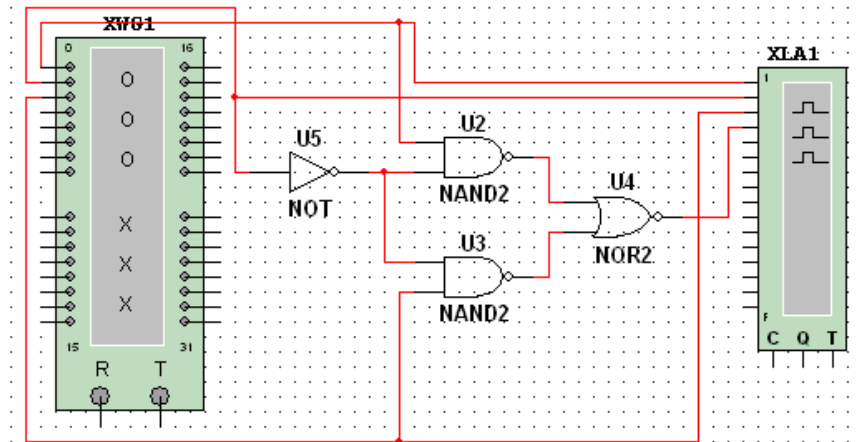
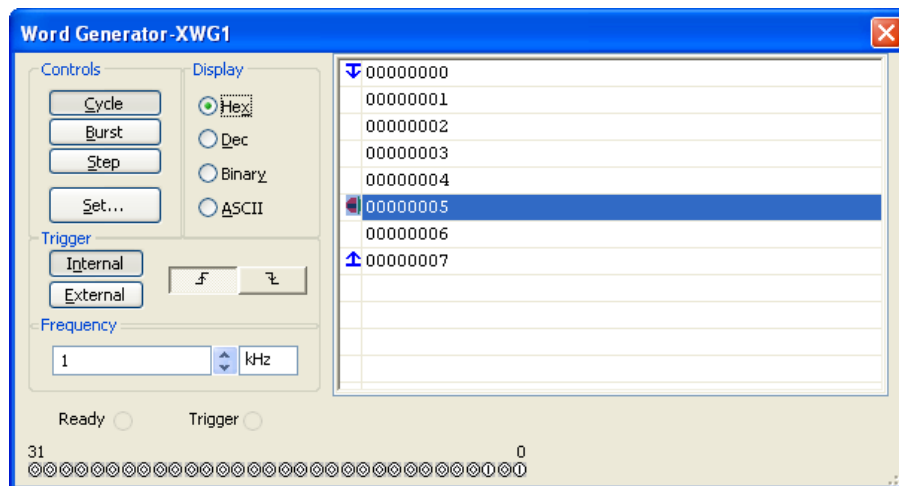
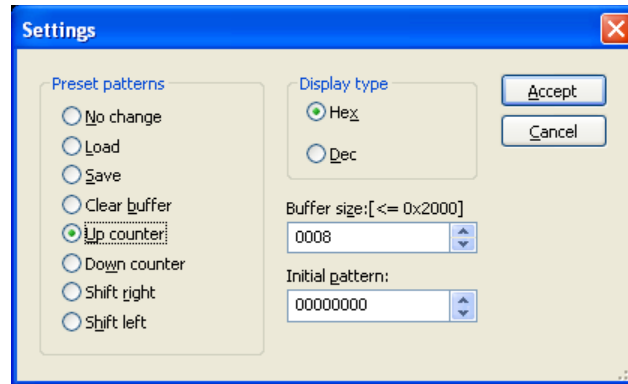
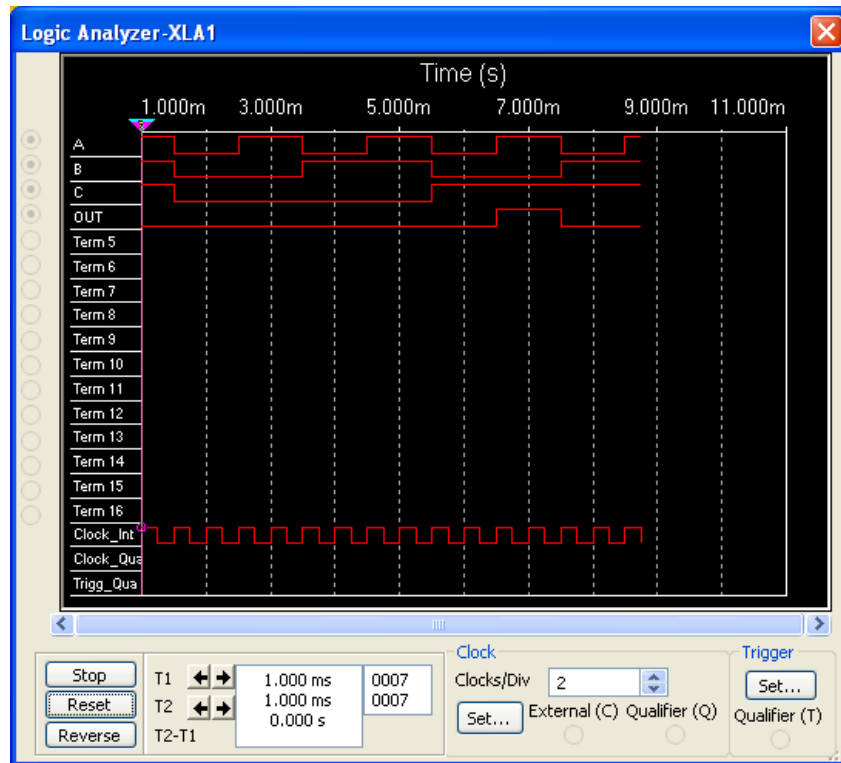

Figure 11. Word Generator connected to the circuit inputs
Figure 12. Word Generator window showing count up pattern
Figure 13. Word Generator Settings window
Figure 16. Logic Analyzer display of the 3 circuit inputs and circuit output of Figure 11, for the 8 patterns produced by the Word Generator shown in Figure 12.
One additional mechanism for generating digital patterns is the “Word Generator” instrument, which can be added to the circuit via the shortcut icon on the right side of the main window, or via the menu bar **Simulate>Instruments>Word Generator**. Figure 11 shows a Word Generator (XWG1) connected to the three circuit inputs. The Word Generator produces a sequence of patterns, each containing from 1 to 32 bits.
To specify the patterns and the rate at which they should be produced, double click on the Word Generator symbol, producing the window shown in Figure 12. The Control buttons on the left of this window allow patterns (1) to be continuously applied and repeated (Cycle button), (2) a single set of patterns to be applied (Burst button), or (3) a single pattern to be applied (Step button). The patterns
displayed in this window will be applied in the order listed, and can be entered manually or generated automatically. For automatically-generated patterns, press the Set button, producing the Settings window of Figure 13. In this example, “Up Counter” is selected to produce a sequence of binary numbers, “Buffer Size” is set to 8 to limit the sequence to 8 numbers, and “Initial pattern” is set to 0. Note that the 8 binary numbers are displayed in the Word Generator window of Figure 12. The rate at which the patterns are to be applied to the circuit is specified via the Frequency box of the Word Generator window. In Figure 12, the frequency has been set to 1KHz, which means that 1000 patterns will be generated each second, or one pattern every 1msec.
To facilitate studying the digital circuit output(s), *Multisim* provides a variety of “indicators”. For digital simulation, the most useful are digital “probes”, hex displays, and the Logic Analyzer instrument. A probe, illustrated in Figure 13, displays a single digital value as ON or OFF (the probe is “illuminated” in Figure 14, indicating an ON condition). The PROBE family of the Indicators group includes a generic `PROBE_DIG` and several `PROBE_DIG_color` indicators (color = BLUE, GREEN, ORANGE, RED, YELLOW). The probe in Figure 14 is `PROBE_DIG_BLUE`. This circuit can be verified by manually changing the three `INTERACTIVE_DIGITAL_CONSTANT` inputs to each of the 8 possible combinations, and recording the probe value for each combination to create a truth table.
For studying sequences of logic states over time, one can use the Logic Analyzer instrument, shown in Figures 11 and 15. A logic analyzer is an instrument that captures and displays sequences of digital values over time, with the sequences displayed as waveforms rather than as tables of numbers. The *Multisim* Logic Analyzer instrument can capture and display up to 16 signals. Samples are triggered either by an internal clock (N samples per second) or by an external clock. Figure 16 shows the Logic Analyzer display of the three inputs and the output of the circuit in Figure 11. It shows the response of the circuit to the burst of Word Generator values shown in Figure 12, plus the internal clock that was used to capture samples.